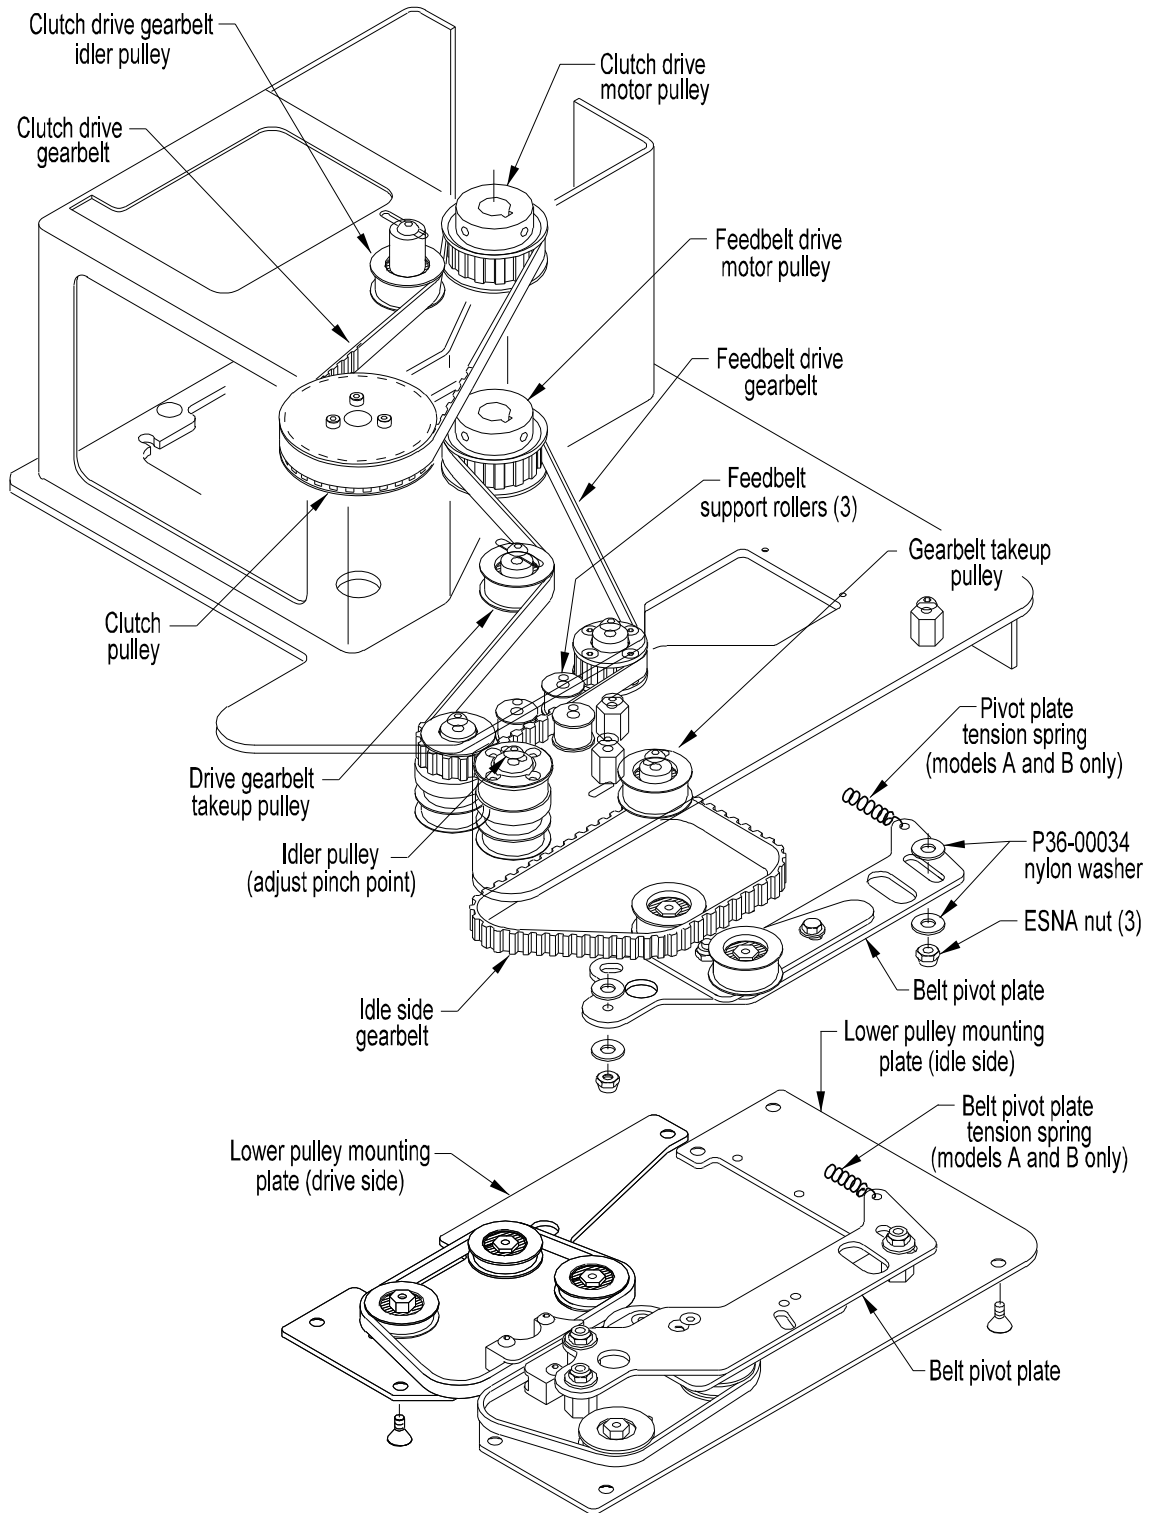

Figure 4.2
### **C. REPLACE UPPER FEED BELT (DRIVE SIDE):** **Figure 4.2**
## D. REPLACE UPPER FEED BELT (IDLE SIDE): Figure 4.2
4. **Belt Pivot Points** - Lubricate these points about once a month. (Refer to Figure 4.2 to identify the belt pivot plates).